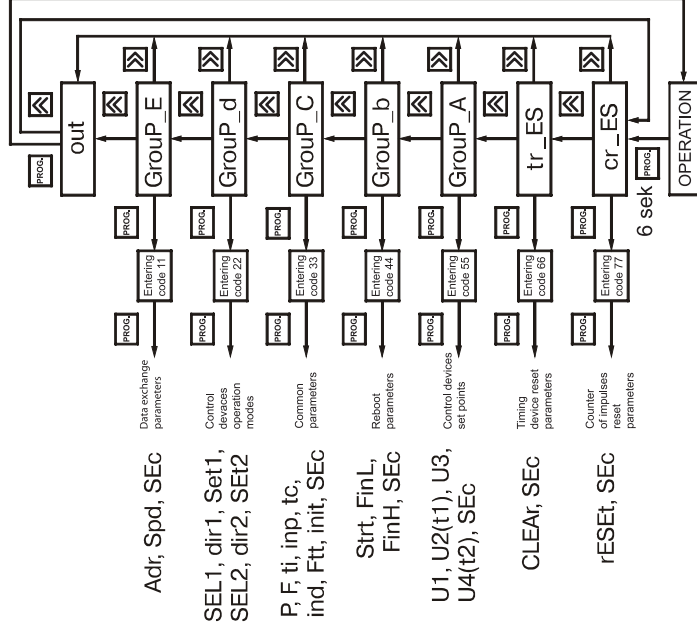

Figure 22.
6.1.5. To enter top level menu in OPERATION mode press and hold  button until **c.rES** appears on digital indicator (figure 22).